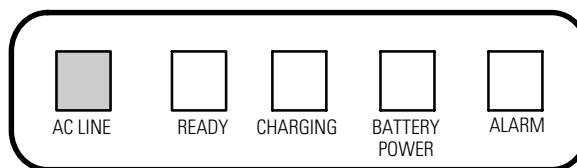

Figure 4. Front Panel Indicators
3. The AC LINE indicator illuminates (see Figure 4).